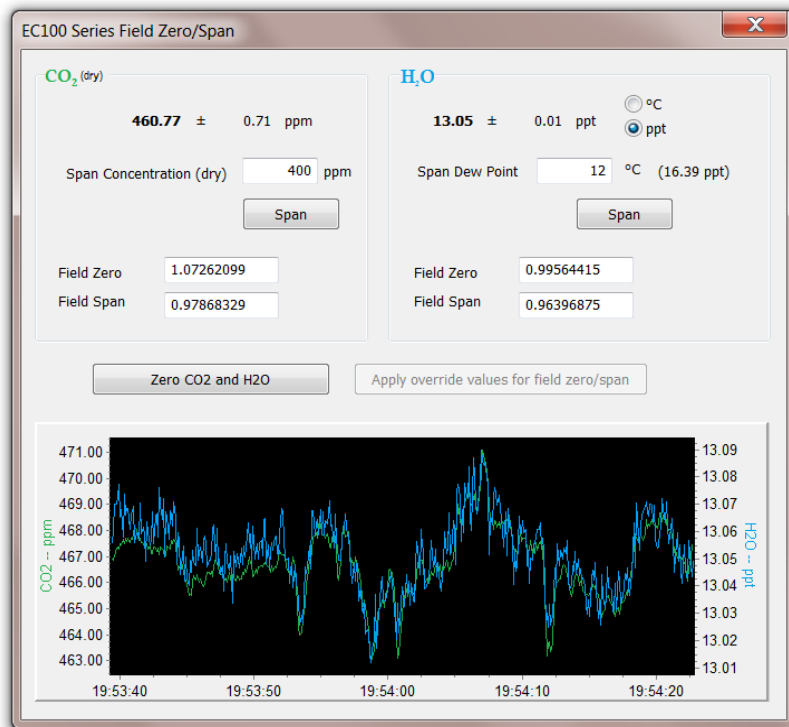

FIGURE 7-2. *ECMon* zero-and-span window
10. Click **Zero/Span**. A graph will appear in the lower half of the zero-and-span window showing measured CO₂ and H₂O concentrations (see FIGURE 7-2).